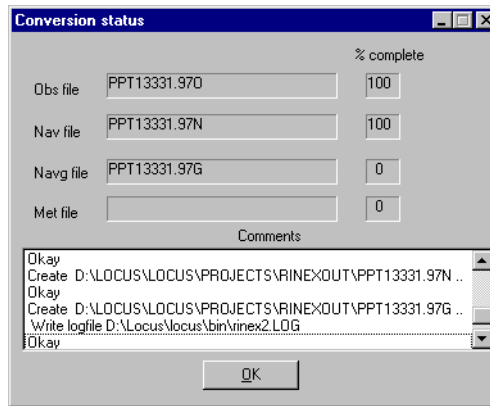

Figure 7.20: Conversion Status Dialog
- Click **Begin** to convert the selected Ashtech files to RINEX format. The **Conversion Status** dialog box opens (Figure 7.20), indicating the status of the conversion process. Upon completion, the dialog indicates 100% for each file. Click **Cancel** to cancel the conversion to the current file type and proceed to the next file type.